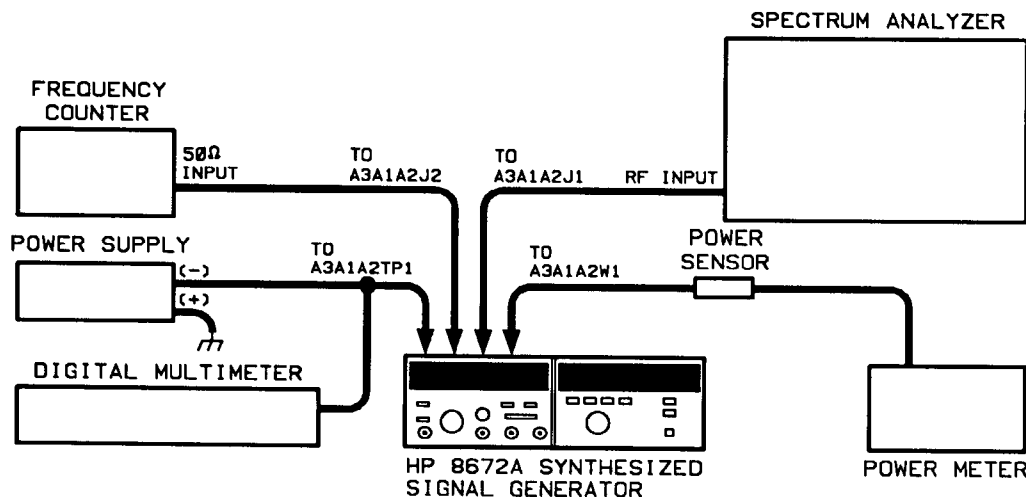

Figure 5-2. 100 MHz VCXO Adjustment Test Setup
1. Connect the frequency counter to A3A1A2J2 in place of the termination and connect the spectrum analyzer to A3A1A2J1 in place of the gray-orange-white cable, as shown in figure 5-2.